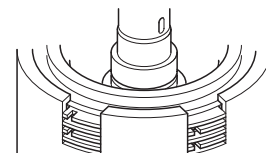

FIG. 1-1b
- Stagger the position of the notches on the outer discs as shown in Fig. 1-1b.
Starting with one of the outer discs, build up the clutch. The lugs on the outer discs have to be positioned in line with each other as shown in Fig. 1-1b.